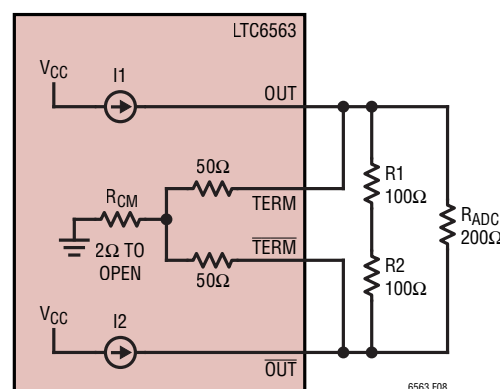
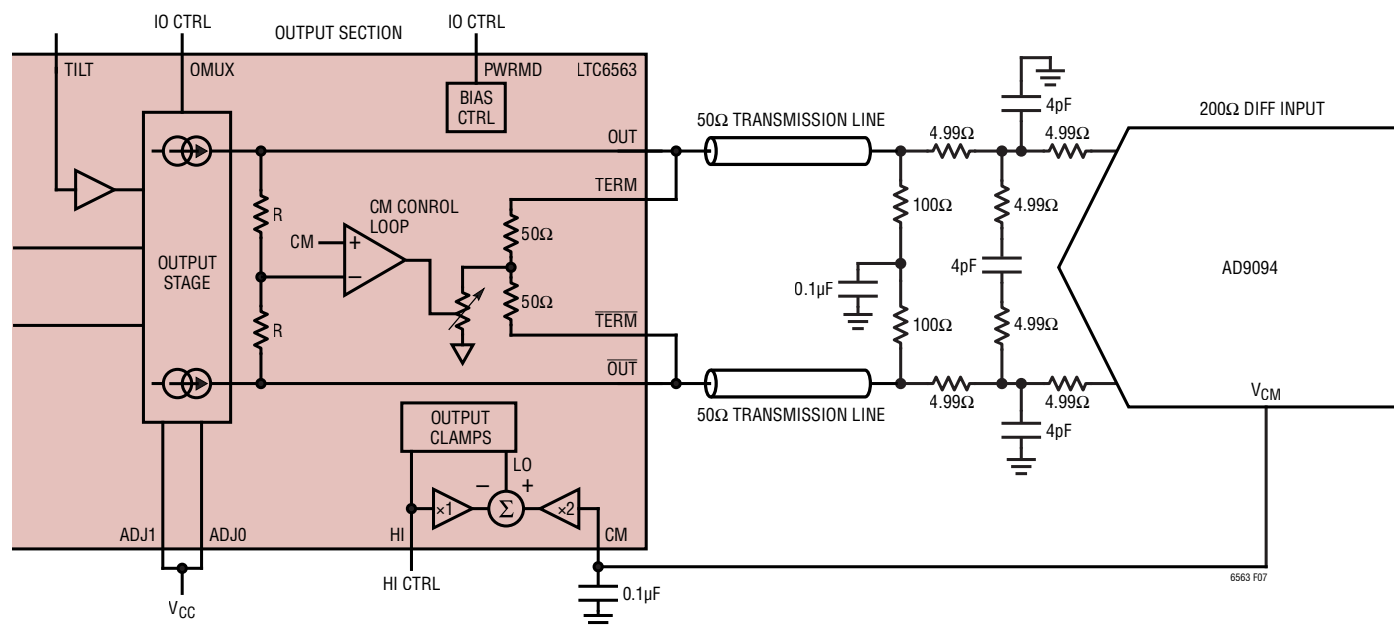

Figure 8. Equivalent Circuit for Driving an ADC with no GND (CM Referenced) External Load
Figure 7. Typical Connection for CM Control/ADC Driving
CM servo loop's voltage range is easily calculated using Ohm's law, as the output circuit can be described as a pair of current sources and a resistor network (see Figure 8). The amount of current supplied by the OUT and \overline{OUT} current sources is determined by the ADJ setting, and the impedance at the output pins is determined by the internal and external resistor networks. These factors will determine the range of possible DC voltages at the outputs.
With an external load connected, the output CM current splits between the internal TERM pin and the external load. However, with the configuration shown in Figure 7 and simplified in Figure 8, with no external CM DC current path to ground, the entire output CM current must flow through the internal TERM resistor(s).
In Figure 8, the external loading by the ADC and the cable termination network of R1, and R2 has no effect on the CM loading of the LTC6563. The range of output CM voltage will be as follows:
Naturally, if the ADJ setting is changed, the V_{CMO} range will vary accordingly. Table 5 shows the minimum computed output CM voltage, output full scale swing, and TIA gain (RT) for various ADJ settings applied to the circuit in Figure 7.
Table 5. CM Minimum Voltage and Other Operating Performance Values for Various ADJ Settings of Figure 7